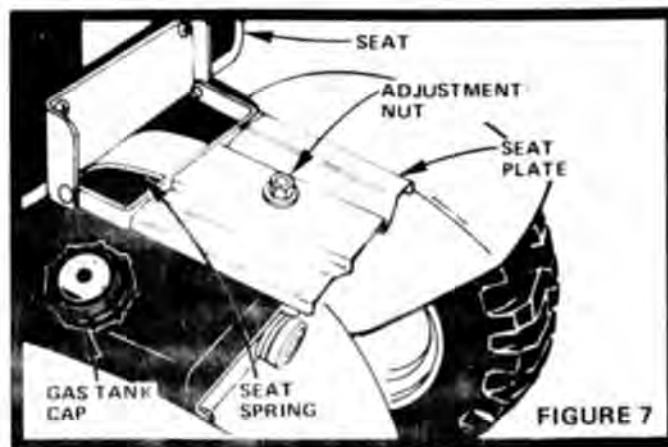

FIGURE 7
- Seat position may be adjusted forward or backward by loosening Nut in Seat Plate (Fig. 7). NOTE: WHEN RE-TIGHTENING NUT AFTER ADJUSTMENT, MAKE SURE SEAT PLATE HAS NOT TWISTED OUT OF ALIGNMENT WITH SEAT SPRING.
- Fill Fuel Tank (Fig. 7) with fresh regular grade lead-free or leaded gasoline. Capacity is 3 1/4 gallons. NOTE: DO NOT SWITCH FROM LEADED TO LEAD FREE GASOLINE.